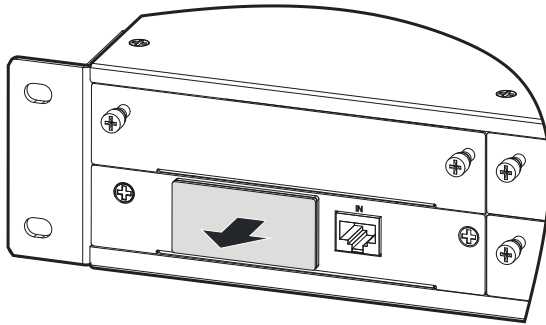

Figure3-14 Dismantle the SNMP card plate
Step 1 Dismantle the SNMP card plate on the system control box, as shown in Figure3-14.